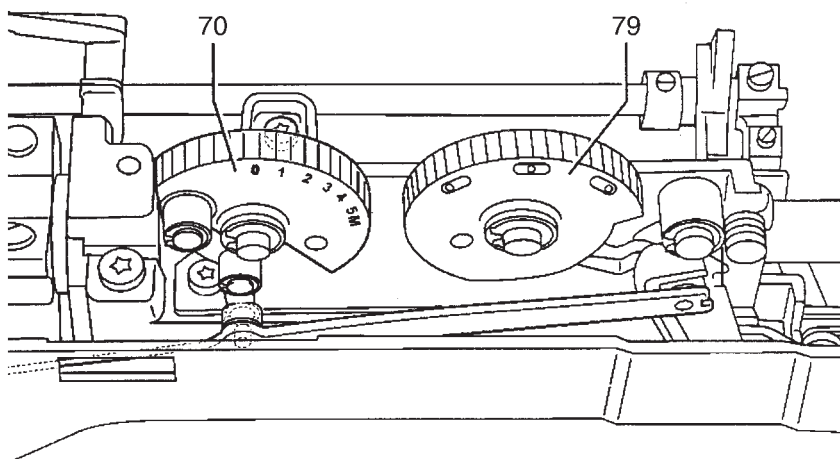

Fig. 27
- Set stitch width adjustment dial 70 to "0" (fig. 27).